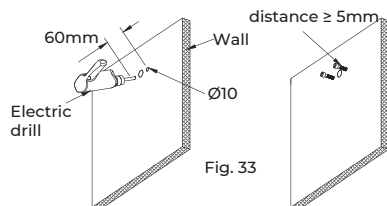

Fig. 33
4. Place the bracket at the position of the mounting hole at the mark on the wall with the hole spacing of 60mm. Use an electric drill to drill a hole  $\Phi 10$ mm at the mark, inside the screw hole, and ensure the head is more than 5mm from the wall, as shown in Fig. 33.